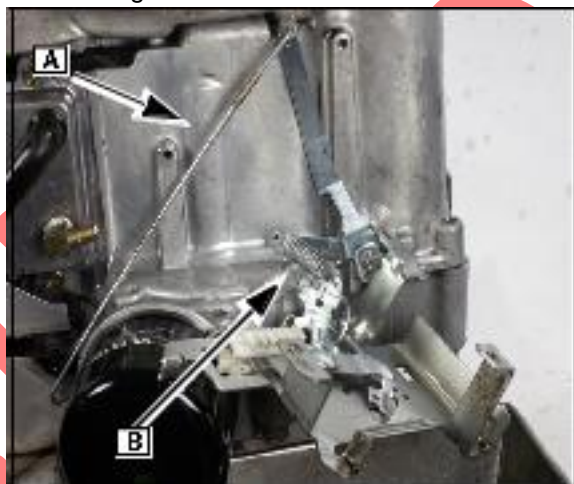

Fig. 16
2. Disconnect the governor return spring (A) and the throttle link ([B] Fig. 16) from the governor lever.